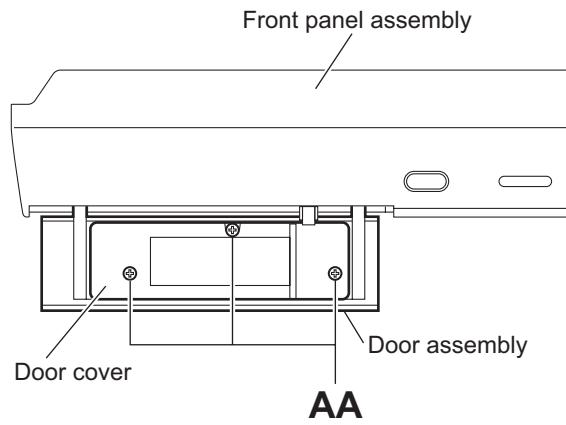

Fig.17
(See Figs.17 and 18)
- (1) Open the door assembly of the front panel assembly and remove the three screws **AA** attaching the door cover to the door assembly. (See Fig.17.)